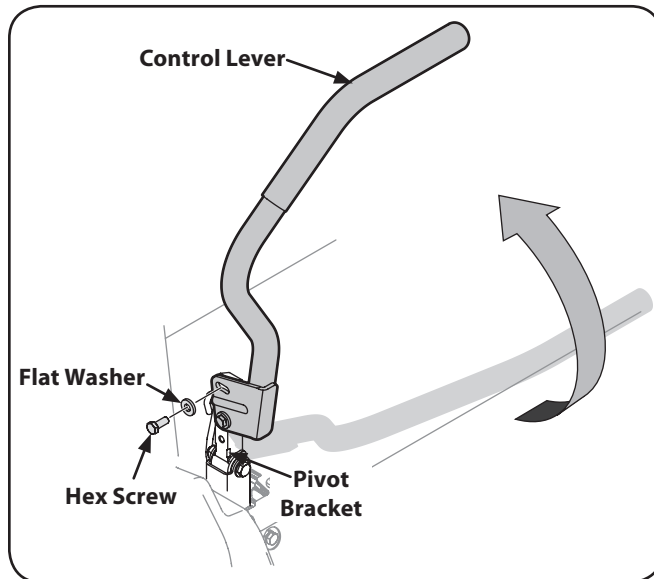

Figure 3-3
2. Lift and swing that control lever upward until the slotted hole in the lever bracket aligns with one of the holes in the pivot bracket. See Figure 3-3.
3. Slide the flat washer onto the hex screw. From the outside, insert the hex screw with washer through the control lever slot and the hole of the pivot bracket. See Figure 3-3. Using a 1/2" wrench snug the screw, but do not fully tighten.